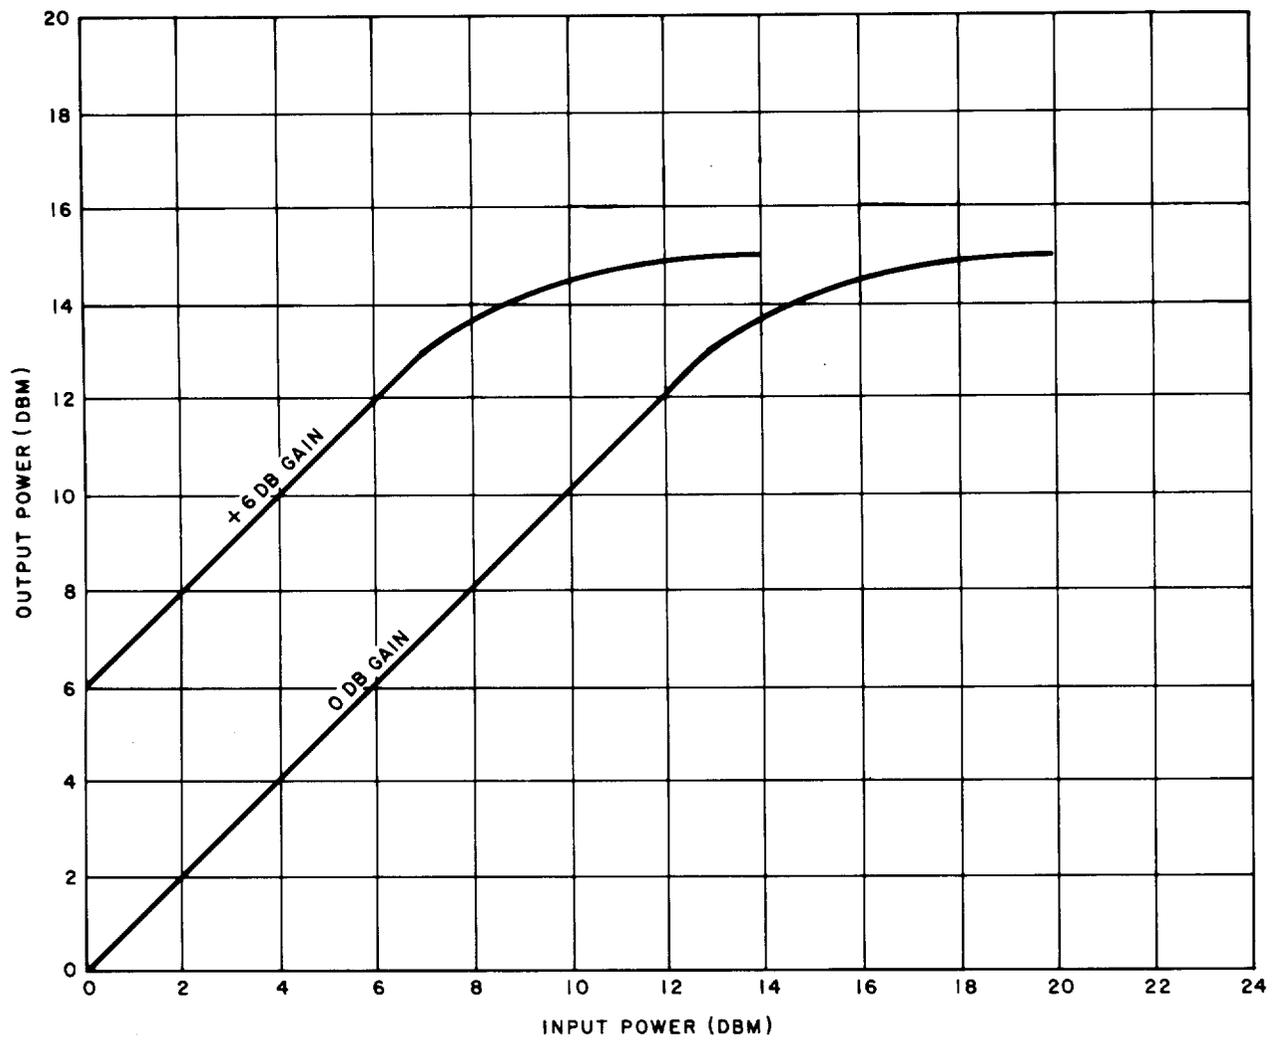

Fig. 11—Output Power Capability
4.05 Figure 11 shows the output power capability of the 2-2 terminal (L) repeaters. The output power is determined by input power and repeater gain, as shown by the +6 dB gain line in the figure. Power limiting occurs in this unit at about 13.5 dBm.